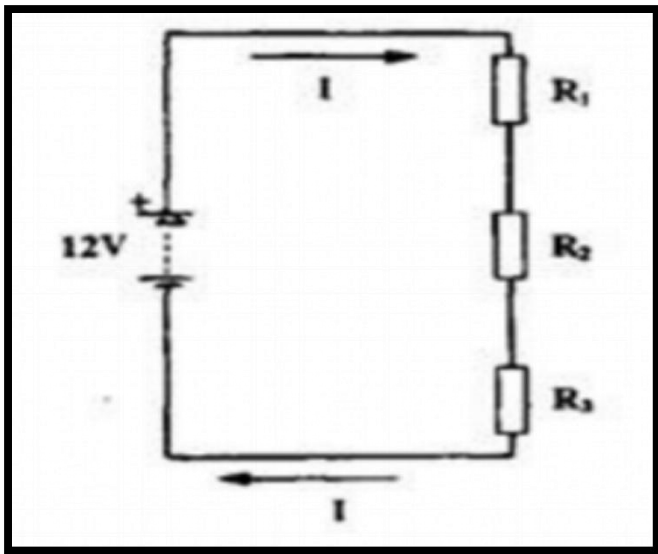
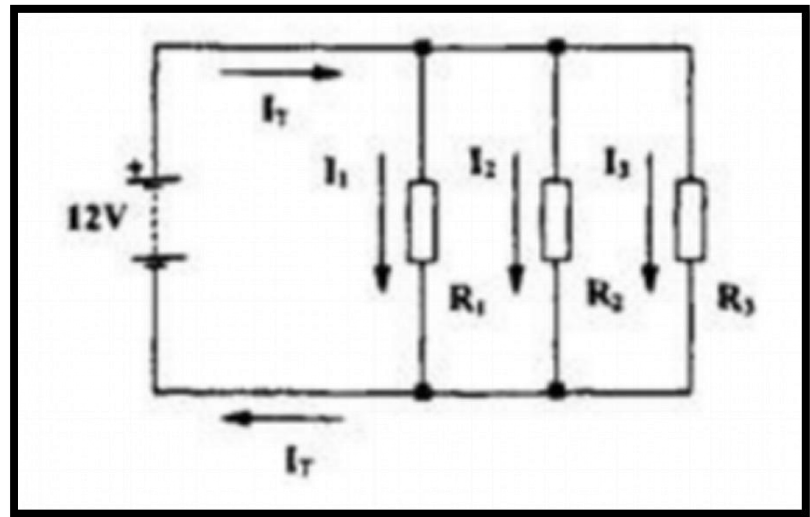

Fig. 1
Fig. 2
A vehicle's electrical circuits consists of a number of components connected between the vehicle's battery terminals constituting a circuit. Components in the circuit can be connected in series (end-to-end in a 'string'), so that same current flows in each (Fig. 1), or can be arranged in parallel so that the current divides between them (Fig. 2).
Fig. 1 represents three resistors connected **in series**, and hence all carry the same current (I). The potential difference developed across each of the resistors may be calculated using Ohm's Law.
Figure 2 shows three resistors connected **in parallel**. Voltage, V_T is applied to all of the resistors.